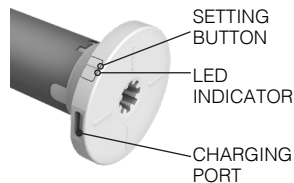

Figure 5: Motor Head
- Insert the charging cable connector into the charging port on the motor head at the end of the shade tube **[Figure 5]** and plug the power adapter into a wall outlet. The green LED light on the motor head will flash three times to indicate the charging cable is connected and will continue to flash while charging. Charging typically takes 5 - 6 hours. When the battery is fully charged, the LED light will glow solid green.